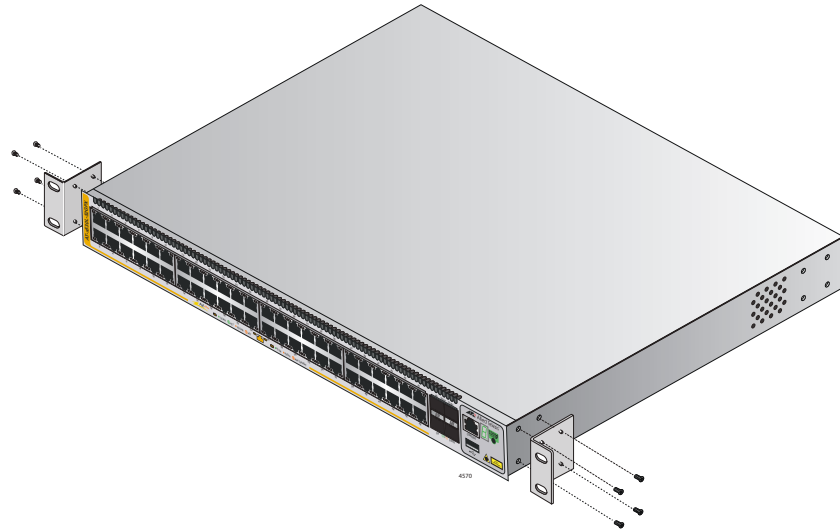

Figure 24. Example of Attaching the Brackets to the Switch
2. Attach the two brackets to the sides of the switch in the selected position, using the eight M4x6mm screws supplied with the unit. The illustration in Figure 24 shows the installation of the brackets such that the front panel of the switch is even with the front of the equipment rack.